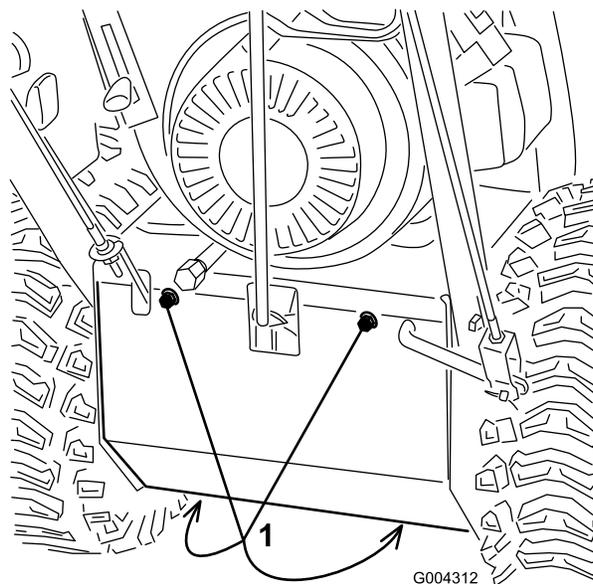

Figure 27
3. Remove the 4 flange-head bolts that secure the bottom cover to the frame and remove the cover (Figure 27).
3. Remove the 4 flange-head bolts that secure the bottom cover and remove the cover (Figure 27).
6. Remove the 4 flange-head bolts that secure the bottom cover to the frame and remove the cover (Figure 27).